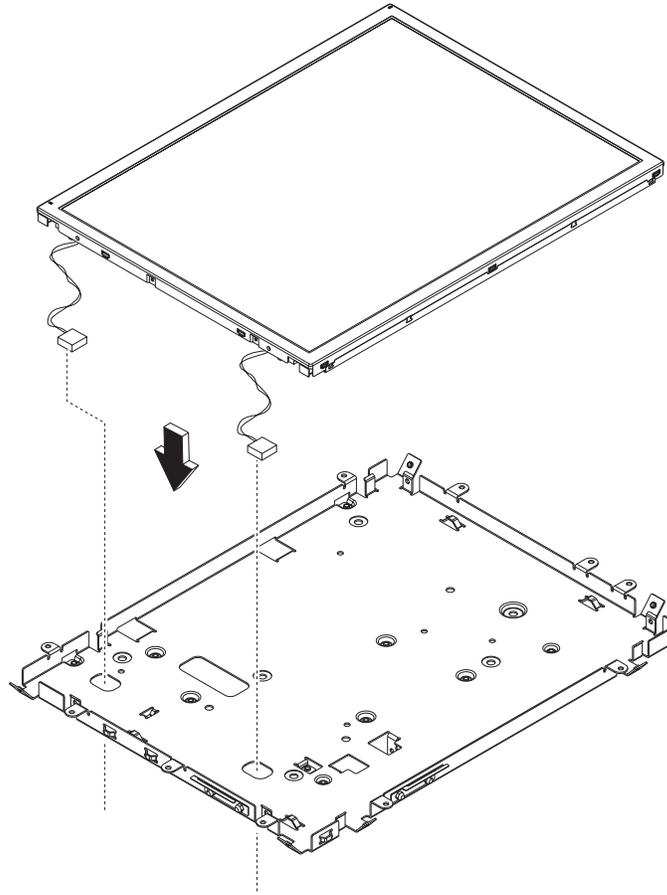

Figure 30. Replacing the LED assembly
7. To replace, see Figure 30 and follow these steps: